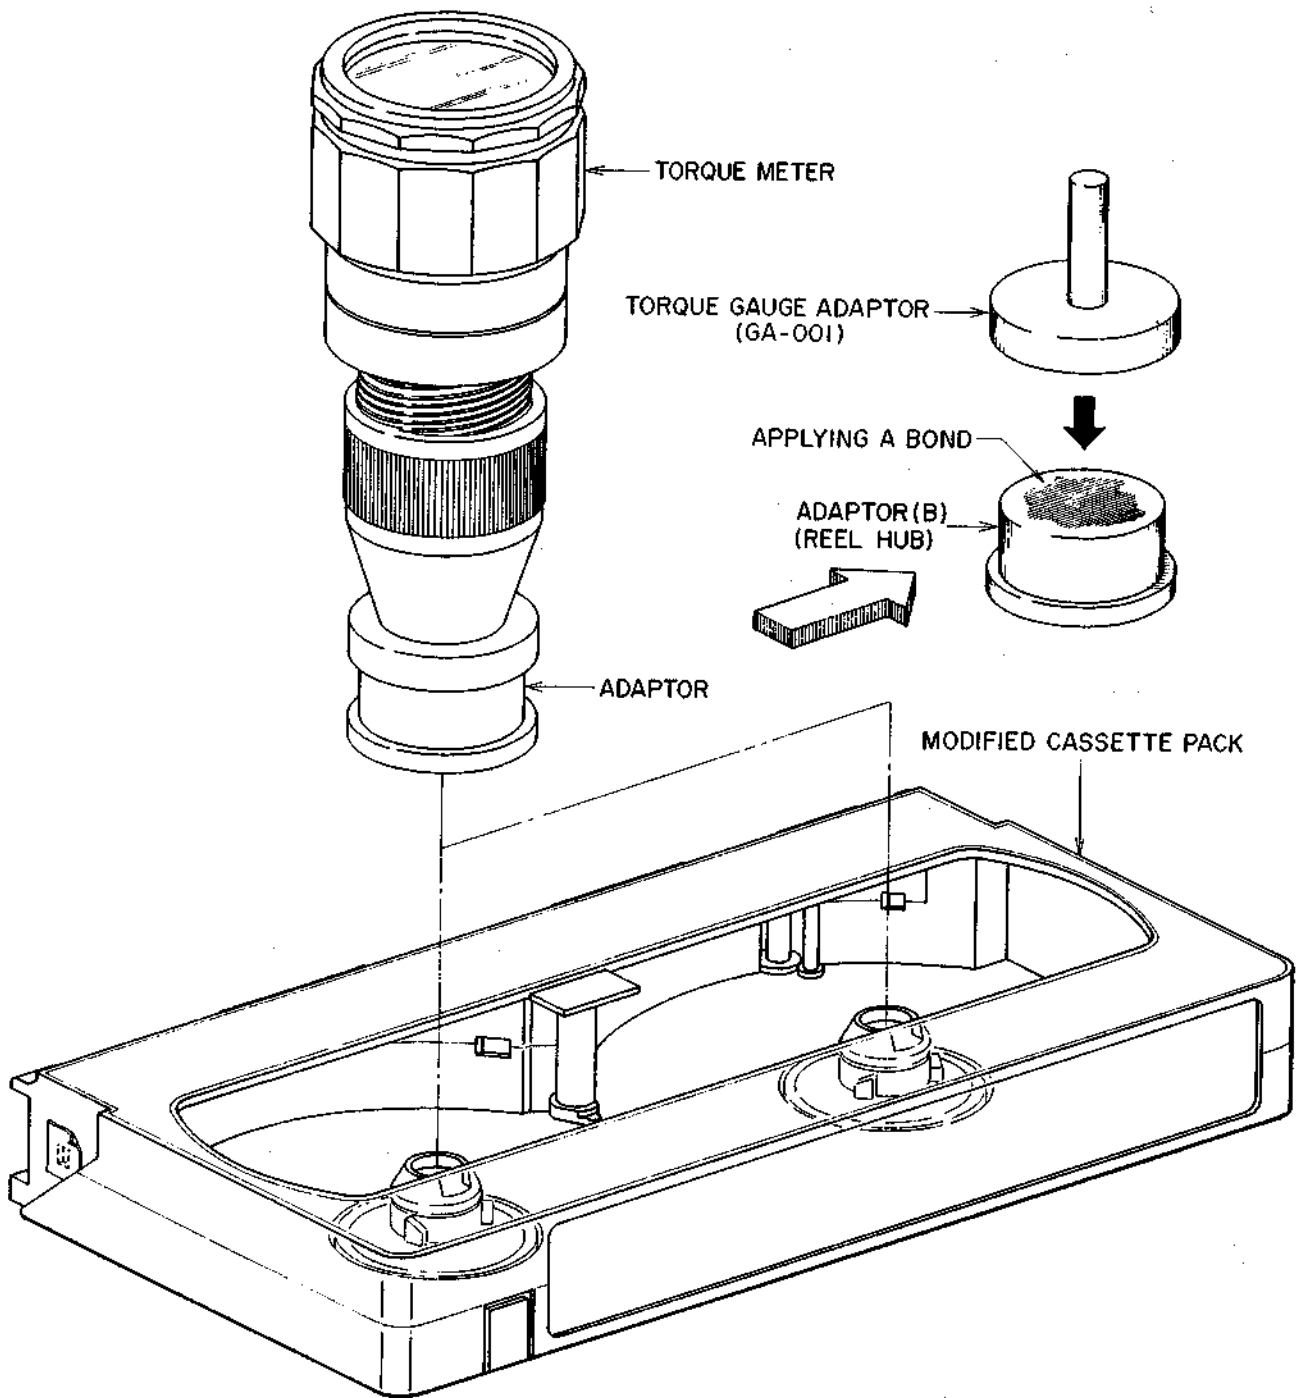

Fig. 112
(Refer to Figs. 112, 113)
2. A modified cassette pack is shown in Fig. 112. The upper side of the cassette pack has been cut away and the tape taken out.